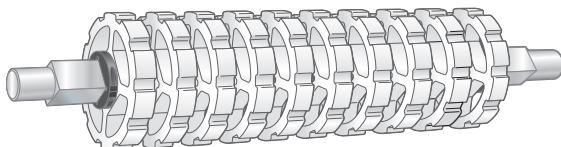

Figure 22
- Choose spaced sprockets (Figure 22) for lightly-loaded applications.